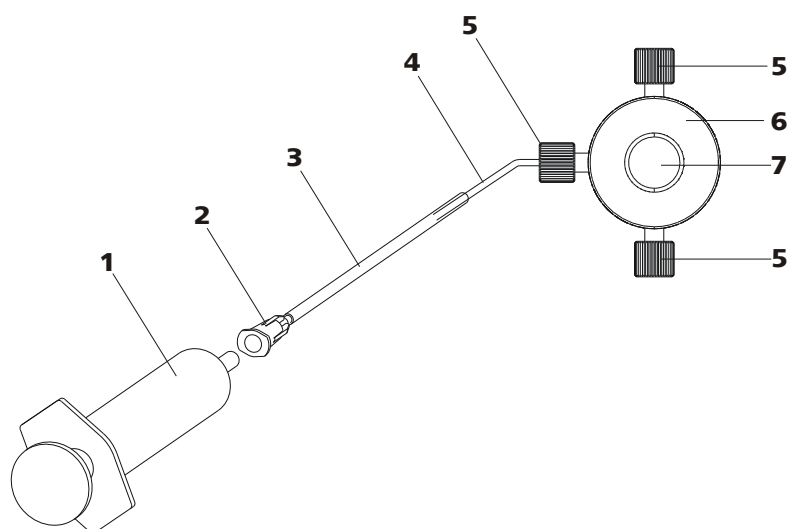

Figure 20 Deaerating the high pressure pump
Deaerate the high pressure pump as follows (see Figure 20, page 32):
- Insert syringe (20-1) in the Luer connector (20-2) of the purging needle (see Figure 20, page 32).